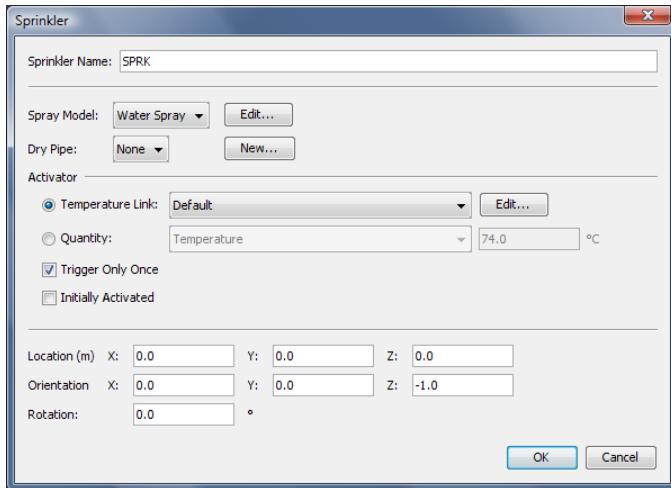

Figure 14.2. Creating a new sprinkler
1. On the **Devices** menu, click **New Sprinkler....** This will display the **Sprinkler** dialog, Figure 14.2.